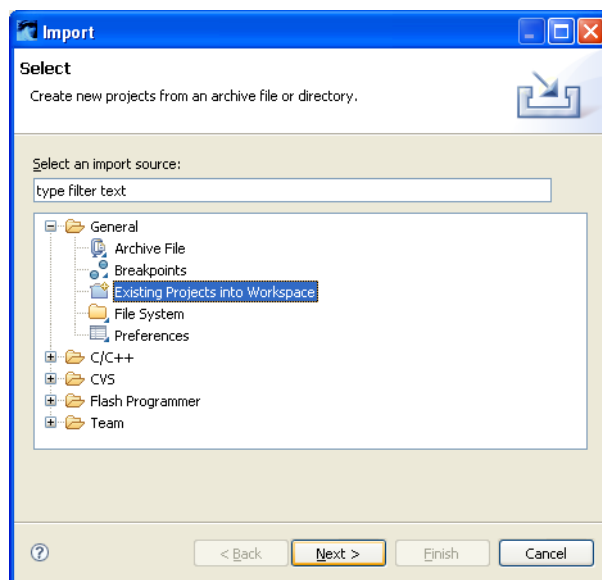

Figure 3-8 Selecting the import source type
2. To import an existing project, select **Existing Project into Workspace** as shown in Figure 3-8. Click on **Next**.